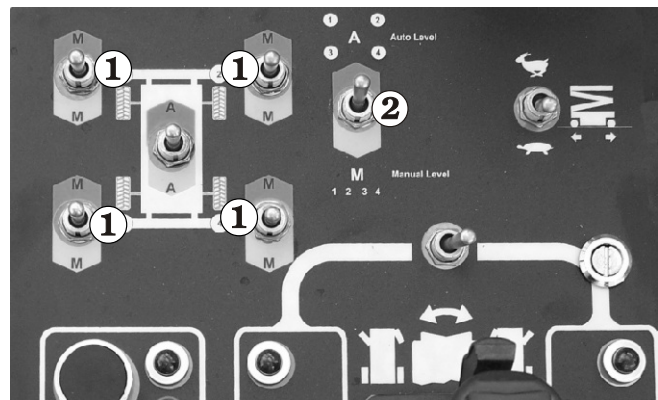

Figure 8.31
2. Set switch **2** to manual mode (see Figure 8.31).
3. Operate each individual switch **1** (see Figure 8.31) one at a time, until all four stabilisers are completely up.